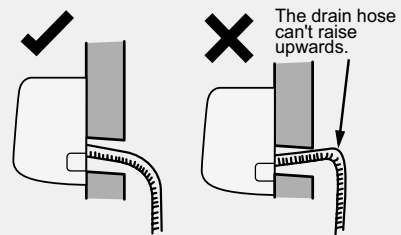

Fig.25
- The through-wall height of drain hose shouldnt be higher than the outlet pipe hole of indoor unit.(As shown in Fig.25)